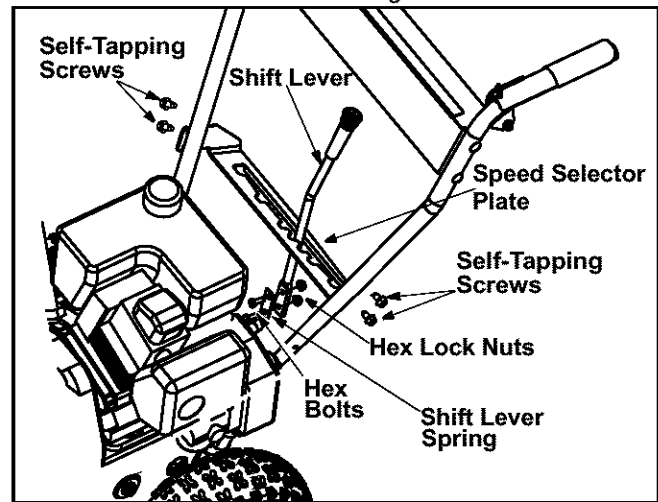

Figure 8
- Assemble the speed selector plate to the **outside** of the handles. Secure using two self-tapping screws on each side. See Figure 8.
- Insert the shift lever through slot in the speed selector plate. See Figure 8.